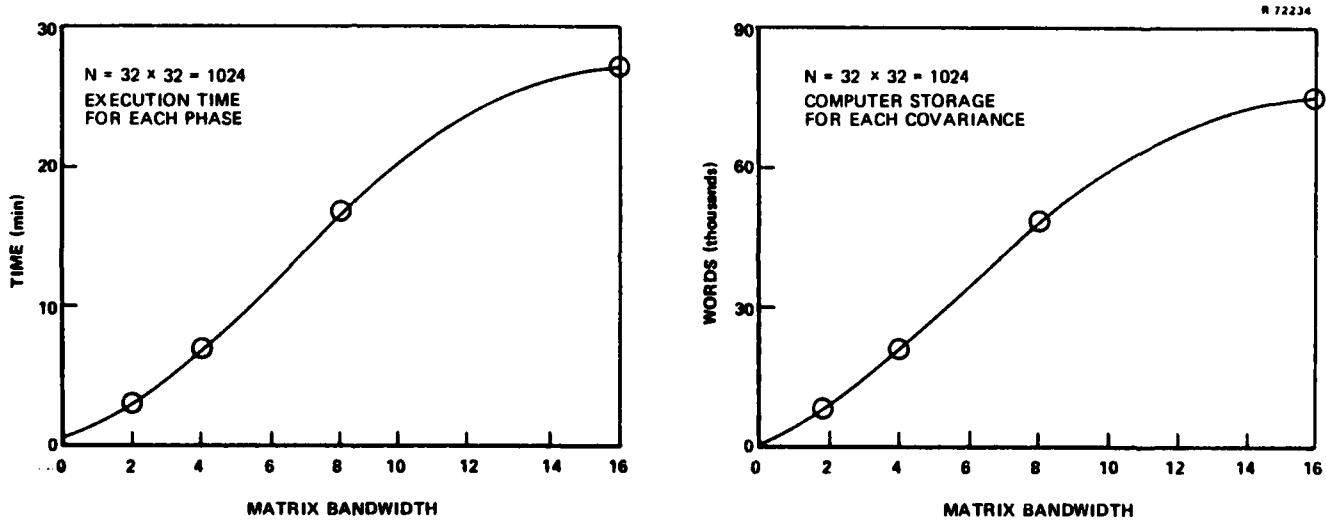

Figure 5.2-3      Time and Storage Variation With Bandwidth
Increasing the matrix bandwidth parameter (MB) increases accuracy, execution time, and computer storage requirements. Typical time and storage variations with bandwidth is shown in Fig. 5.2-3. Accuracies are, in general, problem dependent, but full accuracy is attained when the bandwidth is one half the dimension.